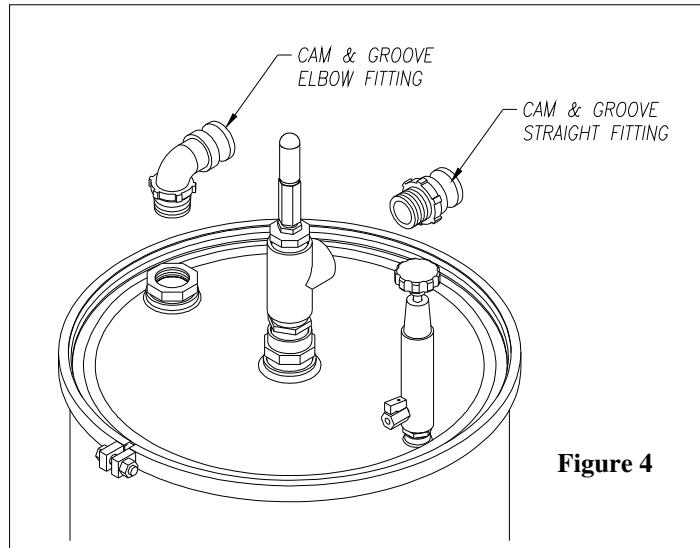

Figure 4
Step 6. Using the proper thread sealant, thread the Cam & Groove Elbow Fitting into the 33" Empty Tube Fitting, and the Cam & Groove Straight Fitting into the center Tee. (See Fig. 4)